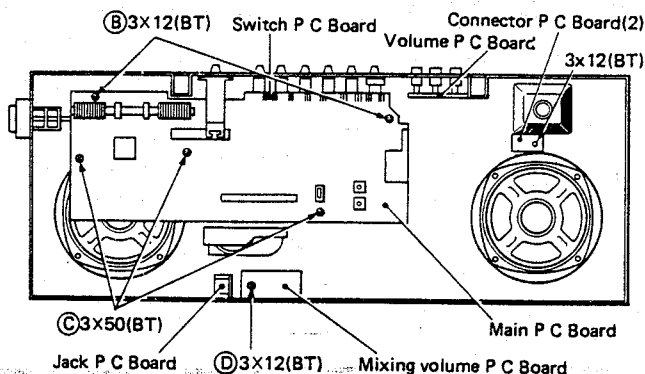

Fig. 5
3. Main and Switch PC Board removal (Fig. 5)
2) Remove 5 main PC Board fixing screw (B), (C) shown in Fig. 5.
4. Volume PC Board removal (Fig. 5)
5. Mixing volume PC Board removal (Fig. 5)
2) The mixing volume PC Board can be removed by removing the fixing screw (D) shown in Fig. 5
6. Jack PC Board removal (Fig. 5)